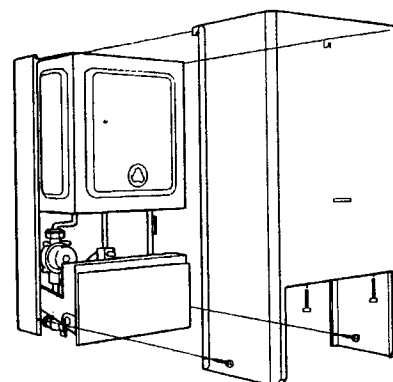

Fig. 23
- 6.14** Refixing the Front Cover fig. 23
- 6.14.1** Offer up the front casing to the back frame in a near vertical attitude and locate the hooks on the casing over the hooks on the frame. Slide the casing downwards to fully engage the hooks and to align the bottom fixing holes. Replace the four case retaining screws. (fig. 23)